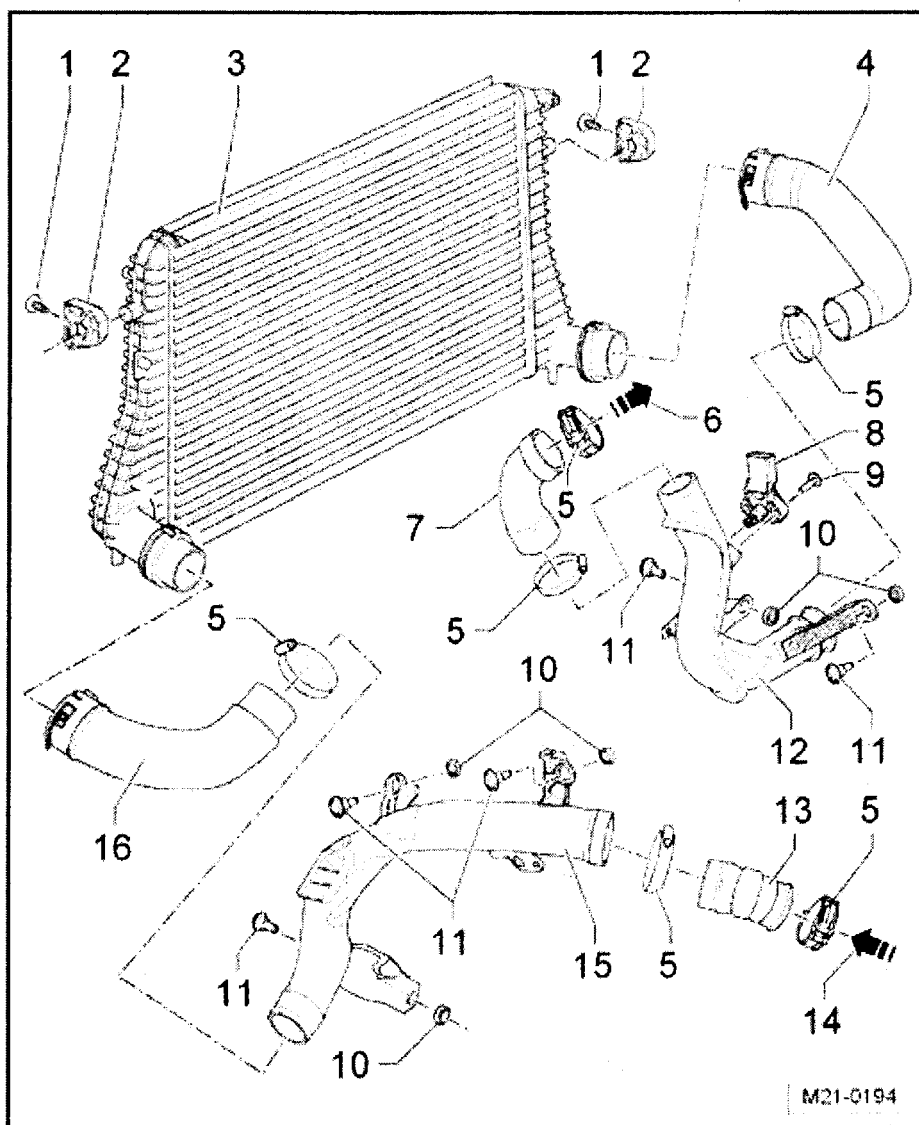

Figure 1
- Remove the original charge air cooler (item 3 in figure 1) from the vehicle.
- Remove the lower charge pressure hoses (items 4 and 16 in figure 1) and clean of any moisture or sludge. See Repair Manual Group 21, Turbocharger/G-Charger, Description and Operation, Component Overview, in ElsaWeb.
- Remove cold side charge air pipe (item 12 in figure 1) and pressure hose to throttle valve (item 7 in figure 1).
- Install the cold side charge air pipe (item 12 in figure 1) and connect the charge air pressure sensor -G31- electrical connector.
- Install the revised charge air cooler (item 3 in figure 1) with regulating flap and connect the regulating flap vacuum hose.